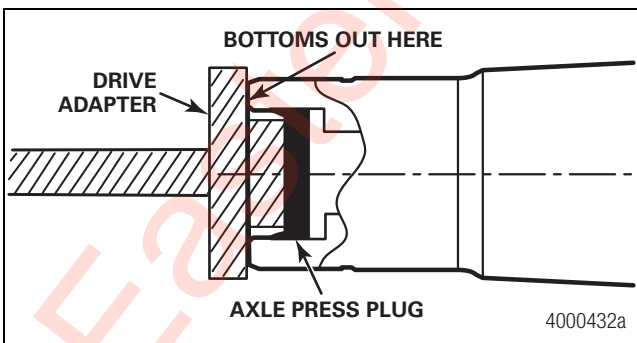

Figure 2.25
19. Use a four-pound brass or synthetic mallet to drive the axle press plug into the spindle bore, until the drive adapter bottoms out squarely on the end of the spindle. The drive adapter sets the axle press plug installation depth. There will be a definite change in the sound and feel of the hammering when the drive adapter bottoms out. The tire inflation system can be pressurized 30 minutes after installation of the axle press plug. Figure 2.25.